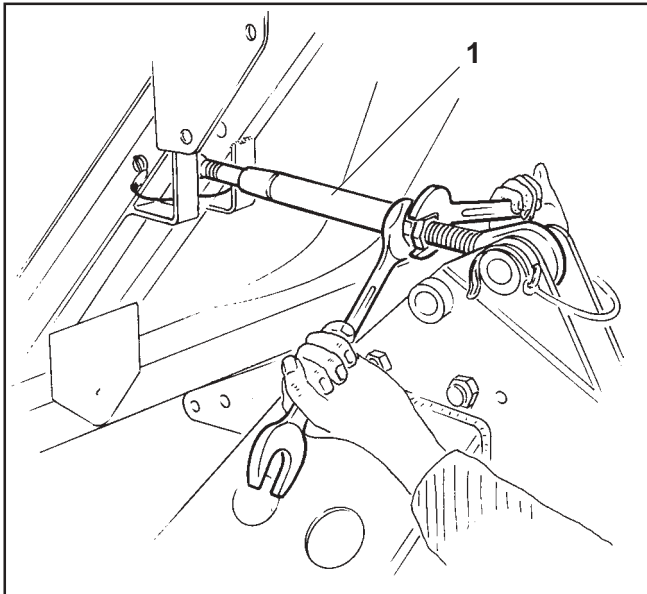

Fig 7.5
- Fix top link (Fig. 7.5/1) to seed drill and soil tillage implement and secure the fixing pins with clip pins.
- Set the top link length (Fig. 7.5/1) in such a way that the seed box is placed about level.